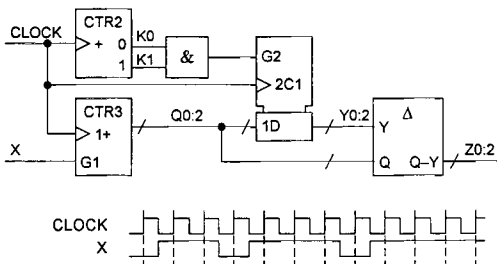

Figure 4
- (b) The circuit of *Figure 4* comprises a register, two counters and the subtractor circuit of part (a), labelled Δ in the diagram. The 3-bit counter increments on the rising edge of CLOCK provided that $X=1$. The register is loaded on the rising edge of CLOCK whenever $K0:1=3$. Complete the timing diagram by showing the values taken by k , q , y and z during each CLOCK pulse. You may assume that all counters and registers are initially reset.